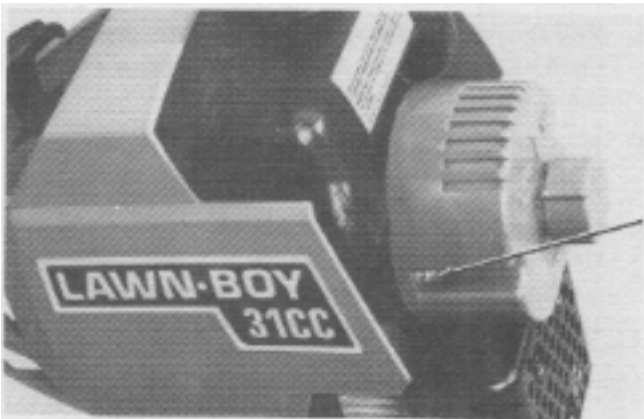

Fig. 16—Unscrew mounting screws and remove choke cover assembly.
- 1) Remove choke cover (Fig. 16) to expose the adjustments.